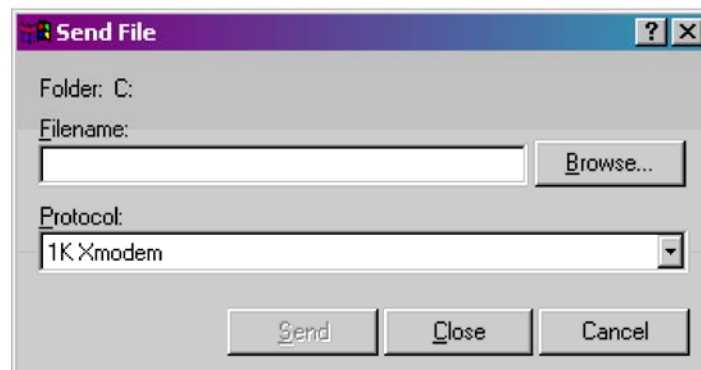

Figure 2-24 - HyperTerminal Flash Download (Send File Dialog Box)
5. When the FLASH is ready for download the letter C will be displayed on the screen. In the HyperTerminal command bar click on Transfer and then Send File (see Figure 2-23). In the Send File Dialog Box (see Figure 2-24), select “1KXmodem” for the protocol, enter the filename of the appropriate .bin file in the format “e1sxxxxx.bin” or “e3sxxxxx.bin” (where xxxxxx varies from release to release). Click on the Send button to start the download (see Figure 2-24). When the HyperTerminal Recovery Mode Menu of Figure 2-22 appears, the download has completed.